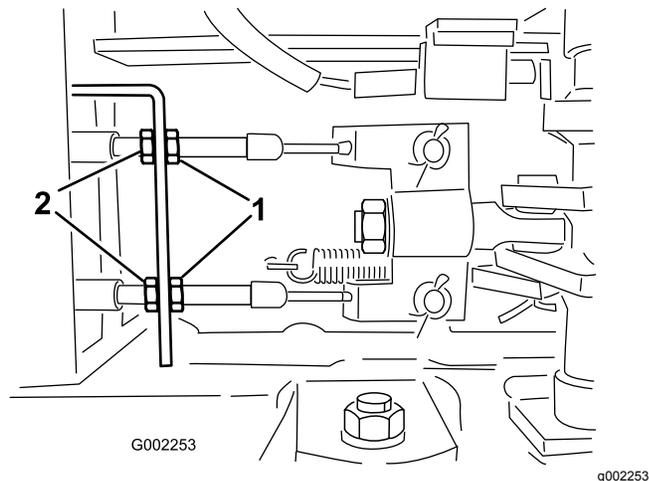

Figure 57
5. Loosen the front nuts on the brake cables under the front end of the sprayer (Figure 57).
- Tighten the rear nuts equally until the brake pedal moves between 1 to 2 cm (1/2 to 1 inch) before you feel resistance (Figure 57).